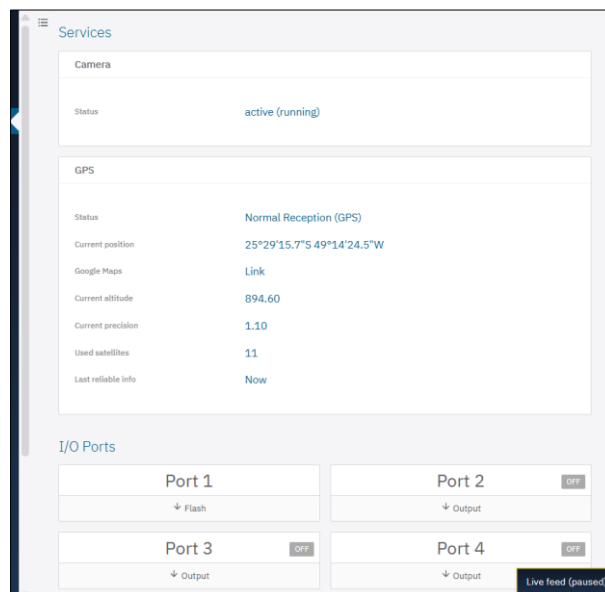

Figure 8 - Available data on the Current Status of Camera and GPS Services and port connections*
* When the device is able to establish communication with a GPS network, the main Geolocation information is displayed as the Figure 8 above.